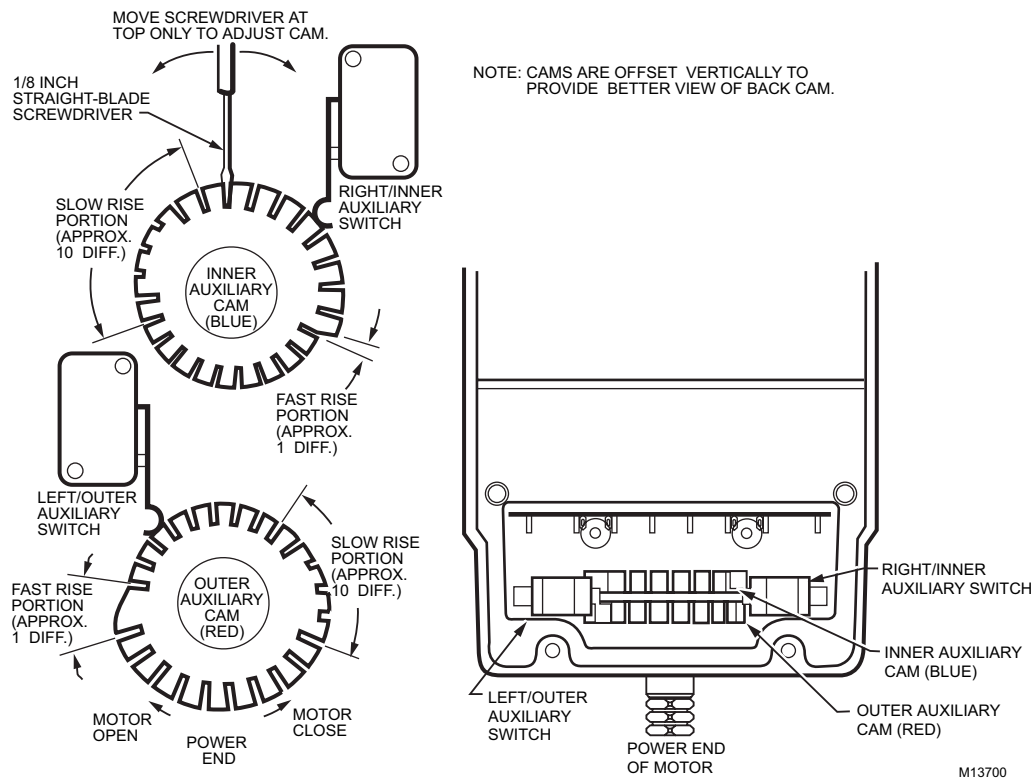

Fig. 12. Auxiliary switch adjustment.
1. Insert 1/8 in. screwdriver blade into a slot on cam and move the screwdriver top as far as possible in the required direction. See Fig. 12.